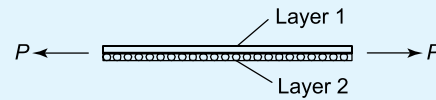

Figure 3.15 Carbon fibre layers
1. Two layers of carbon fibre are stuck to each other, so that their fibres lie at 90° to each other, as shown in Figure 3.15. If a tensile force of 1 kN were applied to this two-layer compound bar, determine the stresses in each. For layer 1, $E_1 = 300 \text{ GPa}$ and $A_1 = 10 \text{ mm}^2$